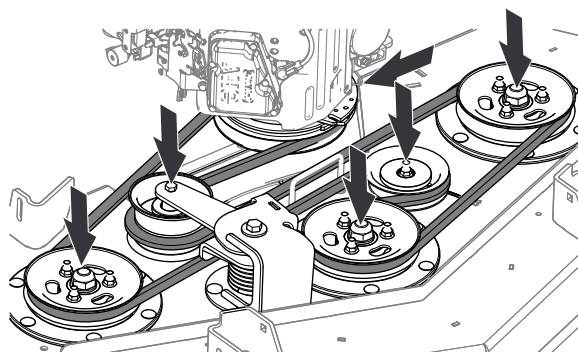

Figure 79
2. Route the belt as shown in Figure 79.